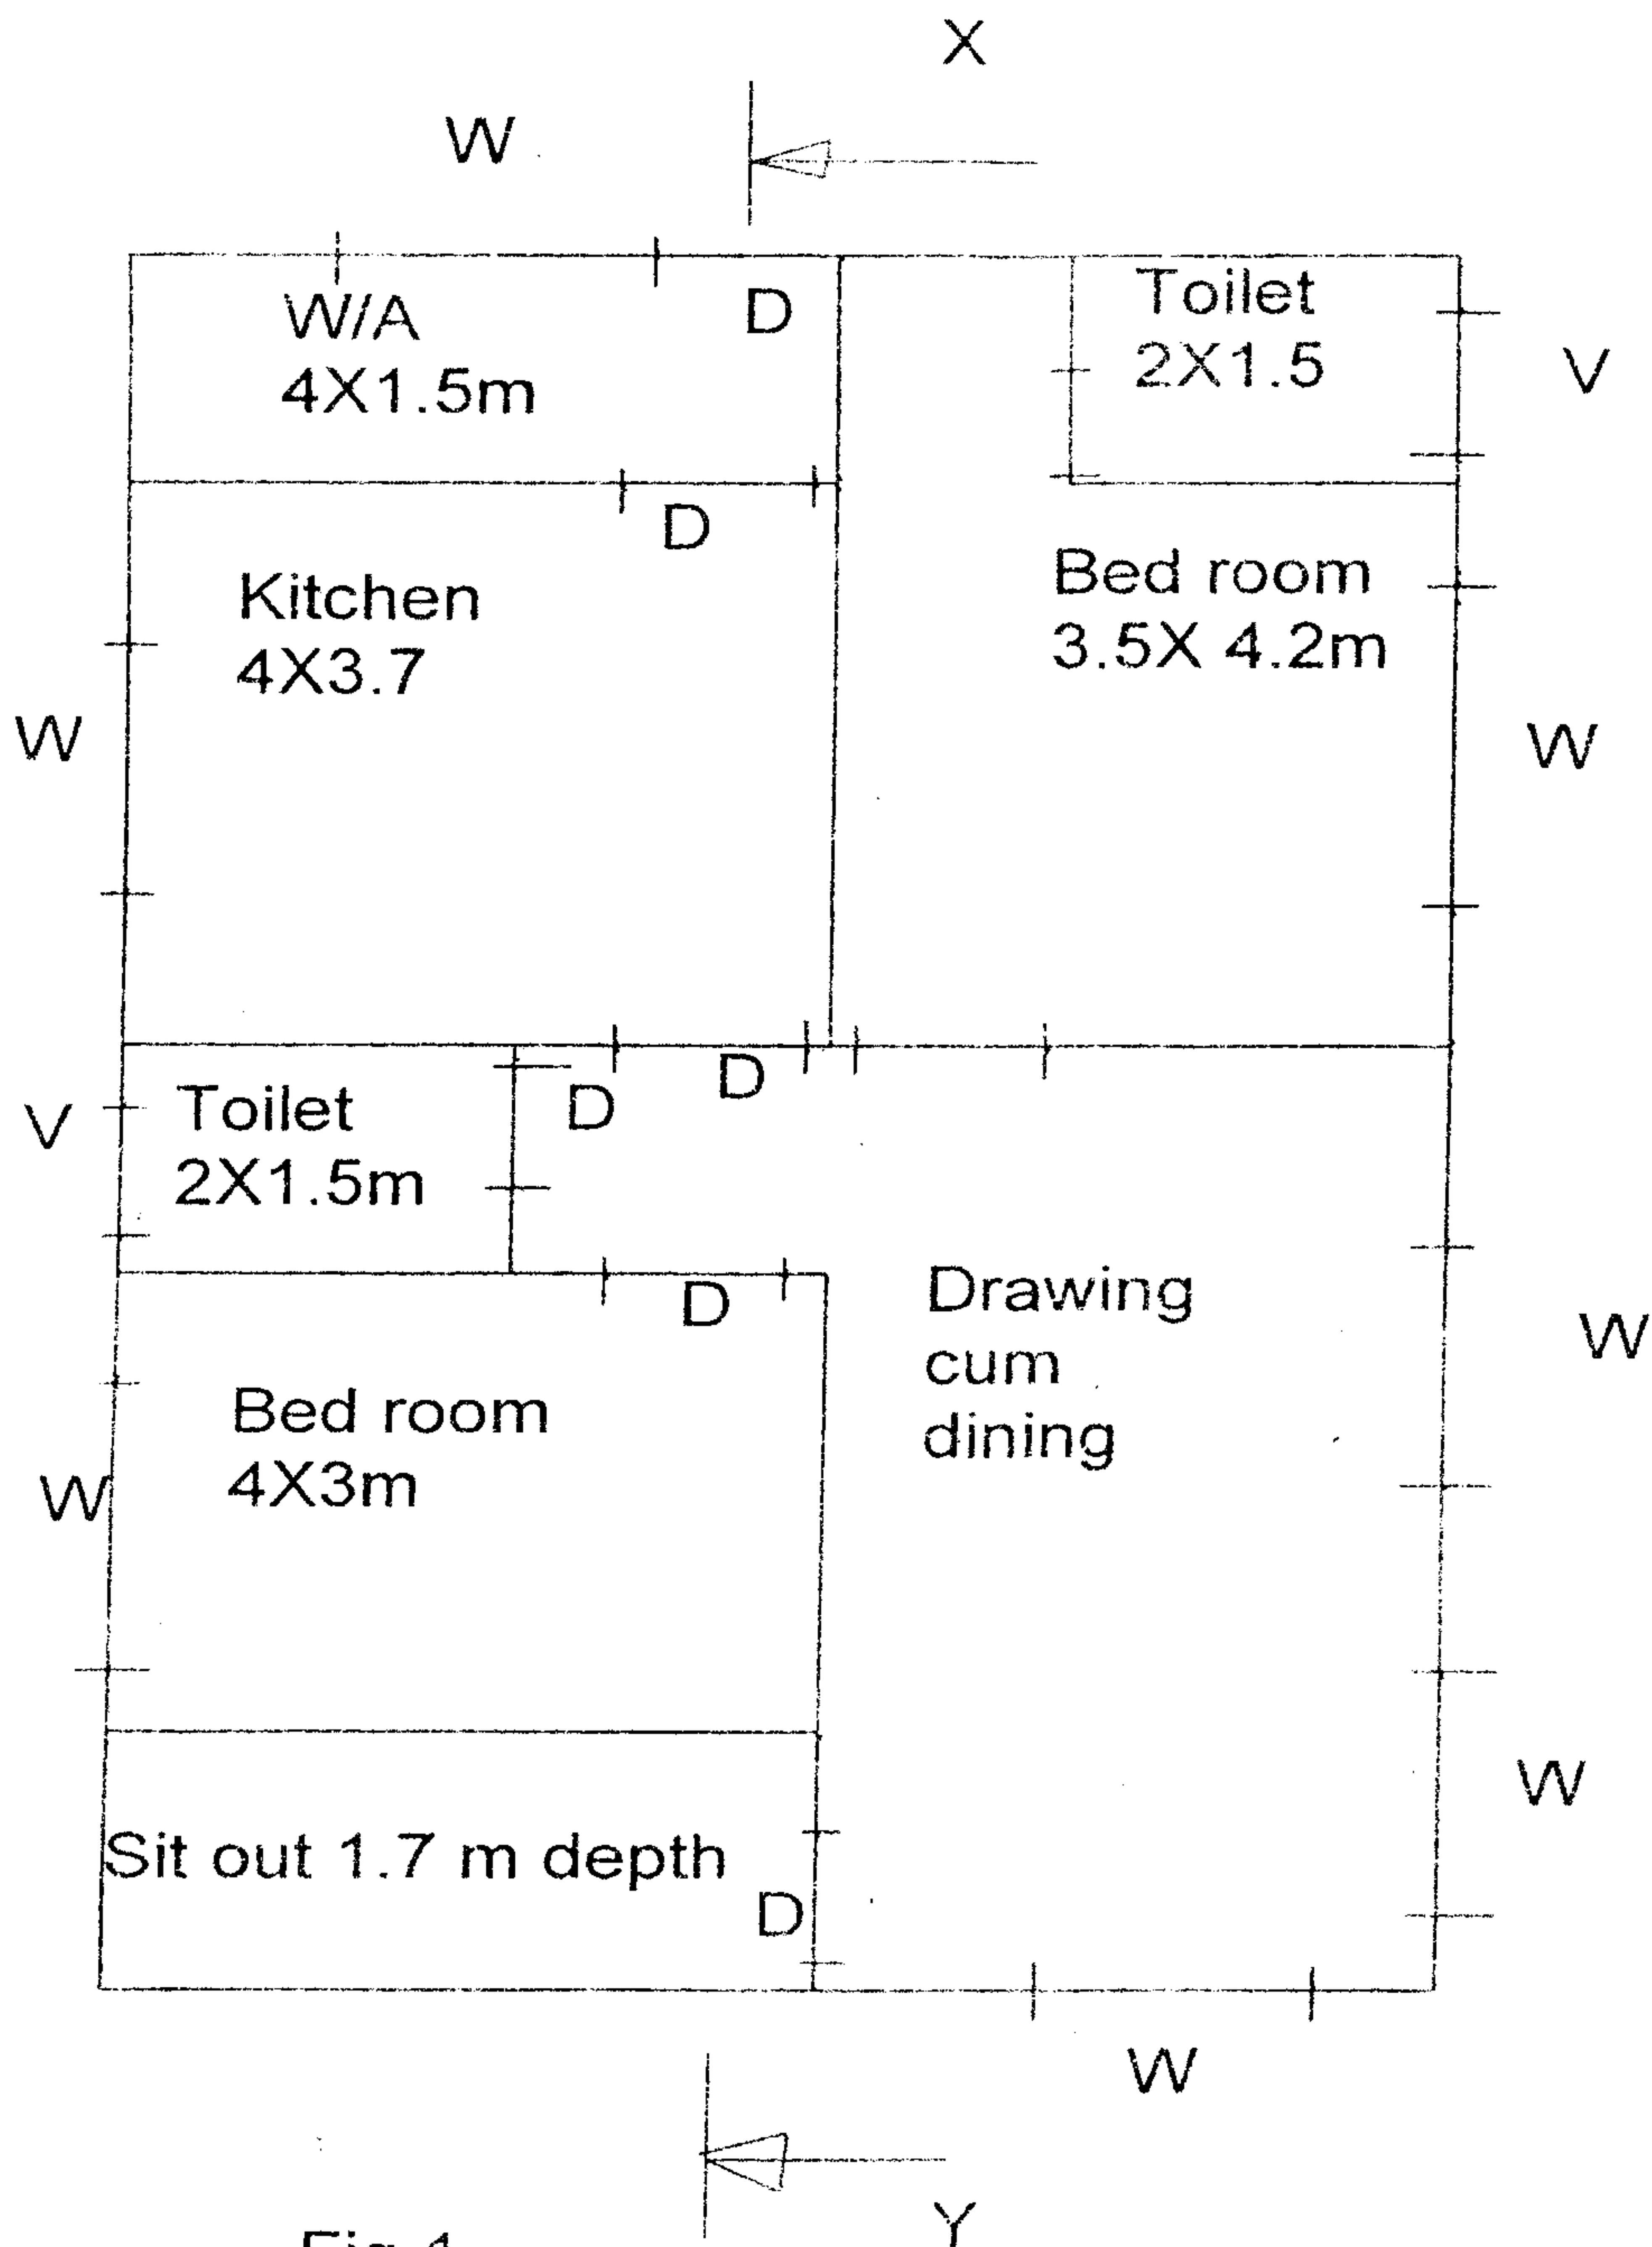

Fig 1
3. Estimate the quantities of the following items of work for the building shown in the fig. 1.